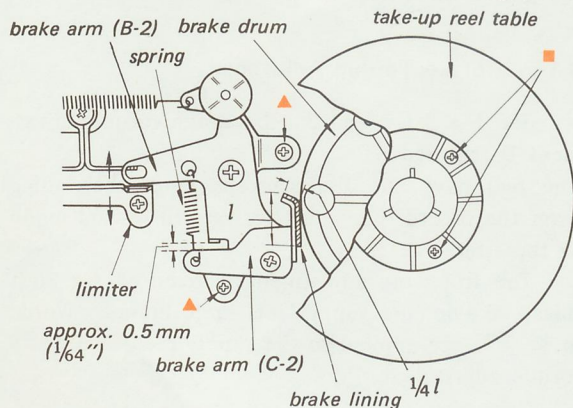
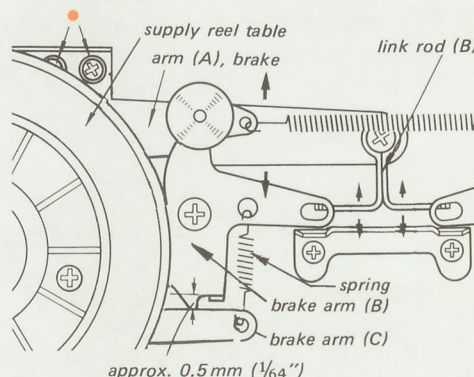

Fig. 3-1-7. Brake torque Adjustment (1)
Fig. 3-1-8. Brake torque adjustment (2)
See Fig. 3-1-7 and 3-1-8. Brake torque adjustment is required if:
- (1) Remove the Reel Panel, referring to the "Reel Panel Removal" in page 11.
- (2) Take off the two screws shown by the mark ■ in Fig. 3-1-7, and remove the Reel Table.
- (1) Set the unit to the stop mode.
- (2) Loosen the two screws shown by the mark ▲ in Fig. 3-1-7.
- (3) Adjust by positioning the Brake Arm horizontally so that the one-fourth part of the Brake Lining from the end of bent portion contacts with the Brake Drum (See Fig. 3-1-7).
- (4) Fix the two screws shown by the mark ▲ in Fig. 3-1-7, tentatively.
- (5) Place an empty reel with string wound several turns counterclockwise < clockwise > on the hub (44 mm dia) onto the reel table. Tie the string to the spring scale. Pull the spring scale horizontally and at a constant speed. Check the reading for brake torque. It should be 300 g-cm to 500 g-cm (4.2 oz-inch to 7.0 oz-inch). Adjust the position of the Brake Arm by loosening the two screws shown by the mark ▲ in Fig. 3-1-7, if necessary, to obtain the specified brake torque and then fix the two screws.
- (6) Set the unit to the play mode. Check that the clearance between the Brake Lining and the Brake Drum is 0.5 mm ($\frac{1}{64}$ "). To obtain the specified clearance, loosen the two screws shown by the mark ● in Fig. 3-1-8, and adjust the brake arm (A) by moving in the directions shown by the arrows in Fig. 3-1-8.
- (7) If necessary, bend the Link Rod (B) in the directions shown by the arrows in Fig. 3-1-8.
- (2) Place an empty reel with string wound several turns clockwise < counterclockwise > on the hub (44 mm dia) onto the reel table. Tie the string to the spring scale. Pull the spring scale horizontally and at a constant speed. Check the reading for brake torque. It should be 1,000 g-cm to 1,400 g-cm (14 oz-inch to 19 oz-inch). Bend the Limiter in the direction shown by the arrows in Fig. 3-1-7 to obtain the specified brake torque.
- (3) Make sure that the Brake Arm (B-2) contacts with the Limiter and that the clearance between the convex part of the Brake Arm B-2 < B > and the Brake Arm C-2 < C > is 0.5 mm ($\frac{1}{64}$ ") or more as shown in Fig. 3-1-7 & Fig. 3-1-8.
- (4) If the clearance is less than 0.5 mm ($\frac{1}{64}$ "), expand the spring shown in Fig. 3-1-7 & Fig. 3-1-8.